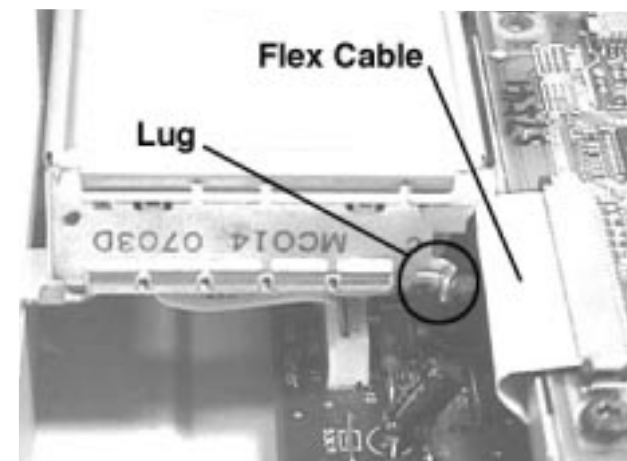

Figure 3
- 2) When the Tuner Module (pos 1105) become defective and need to be replaced, make sure the Lug of the Tuner Module is bend as shown in Figure 3.
Note : The Lug of the Tuner Module is purposely bend in this way (see Figure 3) to prevent damage to the Flex Cable.